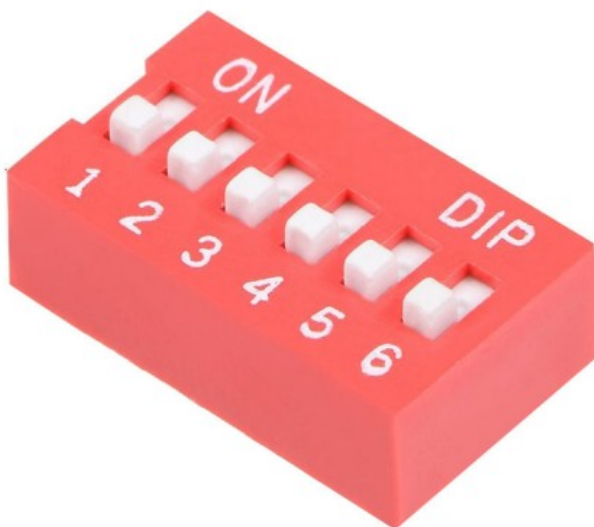

Figure 1
1. On the SLAVE gate operator circuit board, set dip switch #5 to ON (Figure 1).